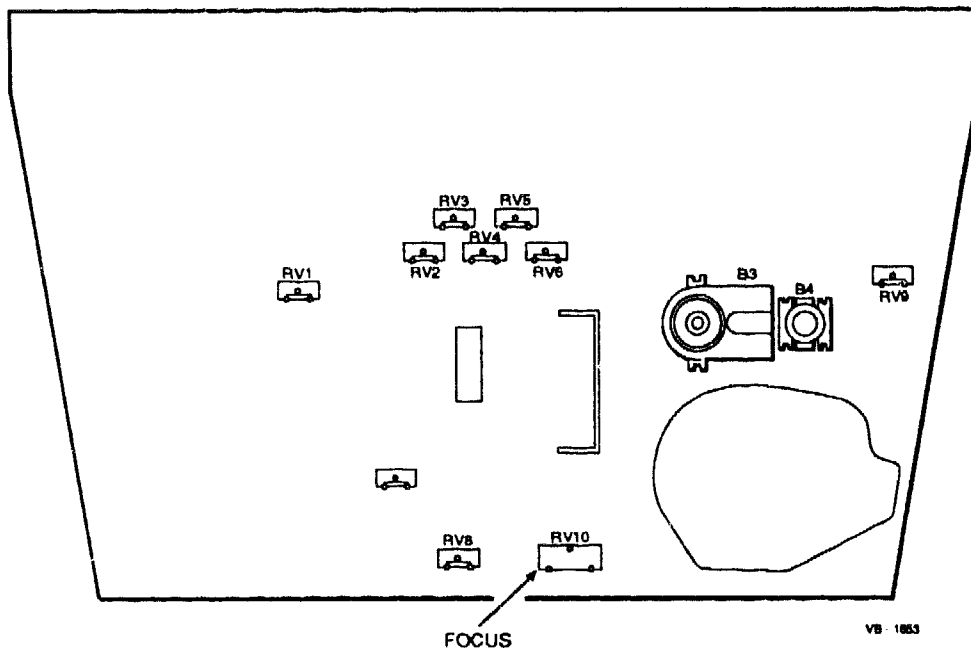

Figure 4-8 Monitor Board Trimmer RV10
5. Adjust RV10 (Figure 4-8) so the character display in the center and corners has the best possible clarity.